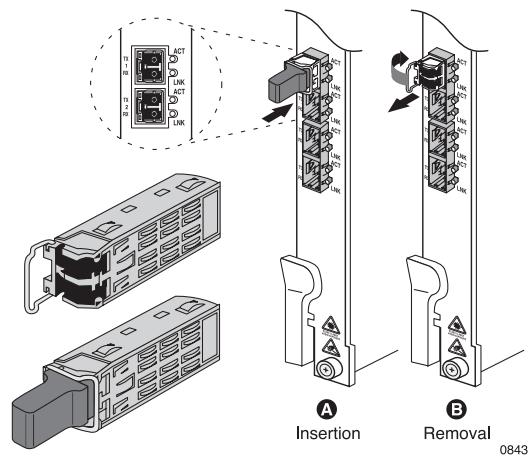
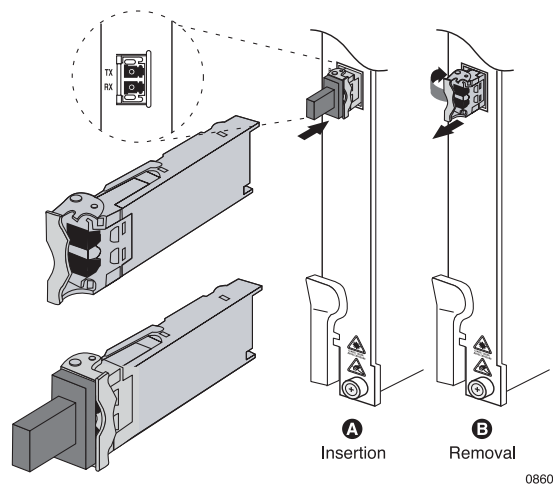

Figure 21 SFP Transceivers
Figure 22 XFP Transceivers
3. With the transceiver connectors aligned with the RX and TX labels on the front panel of the line card (as shown in Figure 21 or Figure 22), slide the transceiver into the opening for the port until the rear connector is seated and the locking mechanism snaps into place.